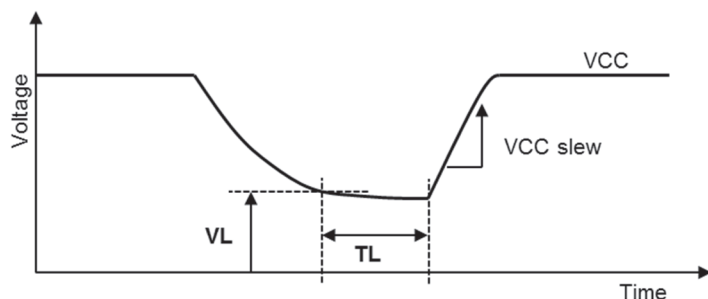
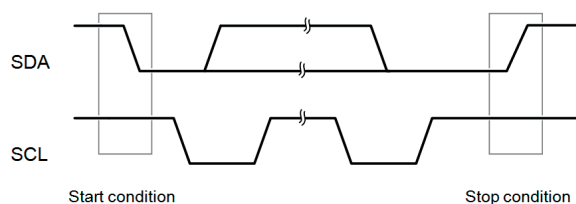

Figure 9: Power On/Off Sequence for proper operation.
Figure 10: Definition of I²C Start and Stop Conditions
Table 9: Power On/Off Timing specifications. Entities are displayed in Figure 9
I²C communication can be initiated by sending a START condition from the master, a high-to-low transition on the SDA line while the SCL is high. A Stop condition, a low-to-high transition on the SDA line while the SCL input is high, is sent by the master (see Figure 10).
No hold master mode allows for processing other I²C communication tasks on a bus while the sensor is measuring. A communication sequence of the two modes is displayed in Figure 9 and Figure 10, respectively.
In no hold master mode, the MCU has to poll for the termination of the internal processing of the sensor. This is done by sending a Start condition followed by the I²C header (10000001) as shown in Figure 10.
In the examples given in Figure 9 and Figure 10 the sensor output is DRH = '0110'0011'0101'0000'. For the calculation of physical values Status Bits must be set to '0' – see Chapter 5. The maximum duration for measurements depends on the type of measurement and resolution chosen – values are displayed in Table 9. Maximum values shall be chosen for the communication planning of the MCU.
Please note: I2C communication allows for repeated Start conditions (S) without closing prior sequence with Stop condition (P) – compare Figures 9, 10 and 12. Still, any sequence with adjacent Start condition may alternatively be closed with a Stop condition.
In the example of Figure 9 and Figure 10, the transferred 16 bit relative humidity data is '0110001101010000' = 25424.
In the example given in Figure 9 and Figure 10 the relative humidity results to be 42.5 % RH.